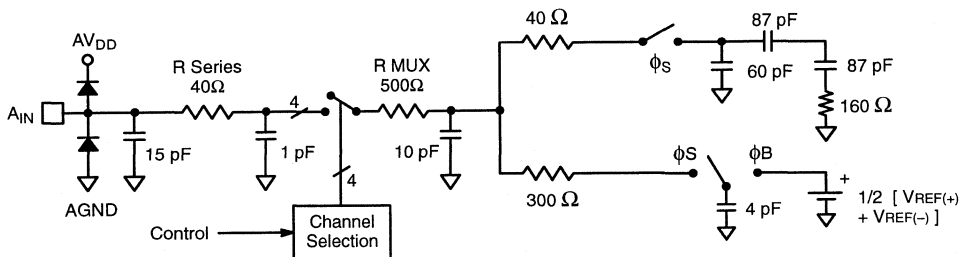

Figure 9. Analog Input Equivalent Circuit
- See V_{IN} input equivalent circuit (see Figure 9).
The MP87099's performance is optimized by using analog input circuitry that is capable of driving the A_{IN} input. Figure 9. shows the equivalent circuit for A_{IN} .